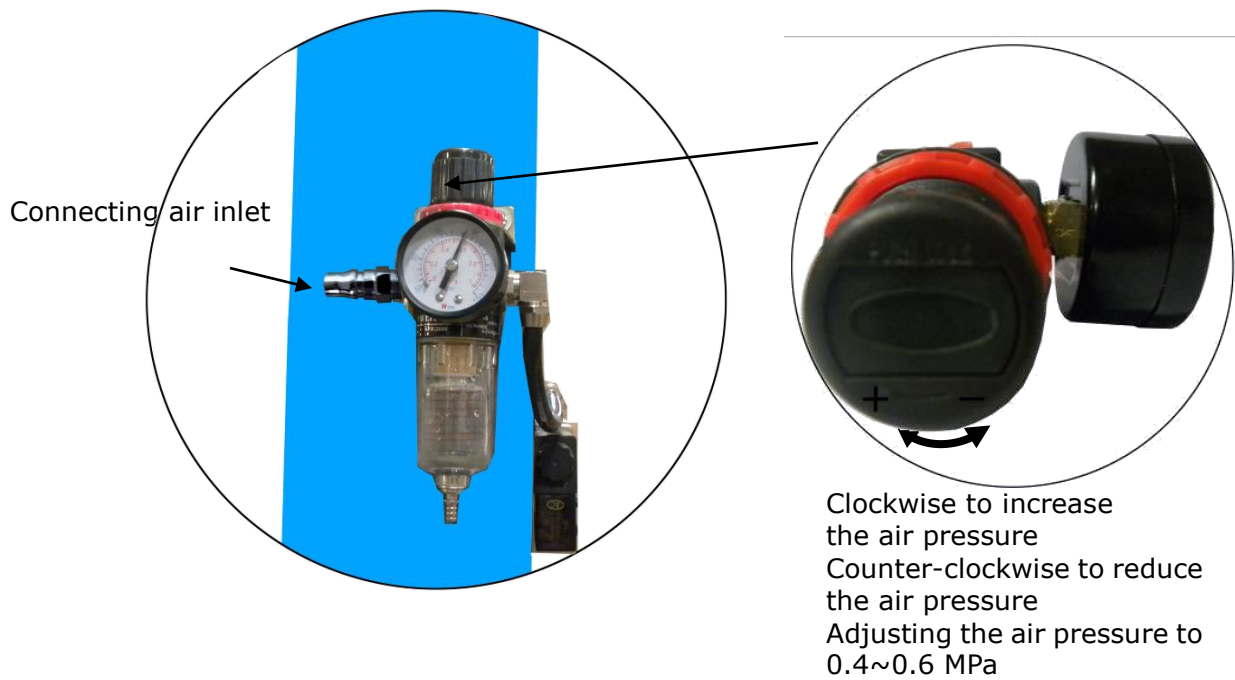

Fig. 29
4. Connecting air inlet (air supply pressure 5kg/cm^2 - 8kg/cm^2), adjusting the air pressure of oil-water separator to $0.4 - 0.6\text{MPa}$ (See Fig. 29).